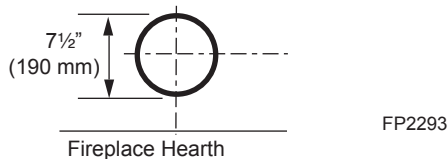

Figure 16 -
Locate vent opening on the wall. It may be necessary to first position the fireplace and measure to obtain hole location. Depending on whether the wall is combustible or noncombustible, cut opening to size. *Figure 16* (For combustible walls first frame in opening.)
Combustible Walls: Cut a 9 5/8" H x 9 5/8" W (244 x 244 mm) hole through the exterior wall and frame as shown. *Figure 16*
1. Establish vent hole through the wall. *Page 17, Figure 16*